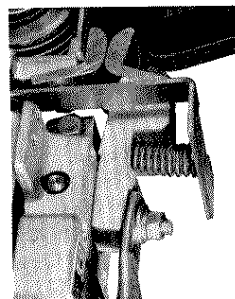

Figure 6
2. Remove the auxiliary arm spring retainer (16) by removing hex head screws and lockwashers.
3. Remove the auxiliary arm spring (15) from the auxiliary arm.
5. Replace the auxiliary arm spring retainer using hex head screws and lockwashers. Check that the auxiliary arm spring is properly seated between the auxiliary arm spring retainer and the auxiliary arm (Fig. 6).